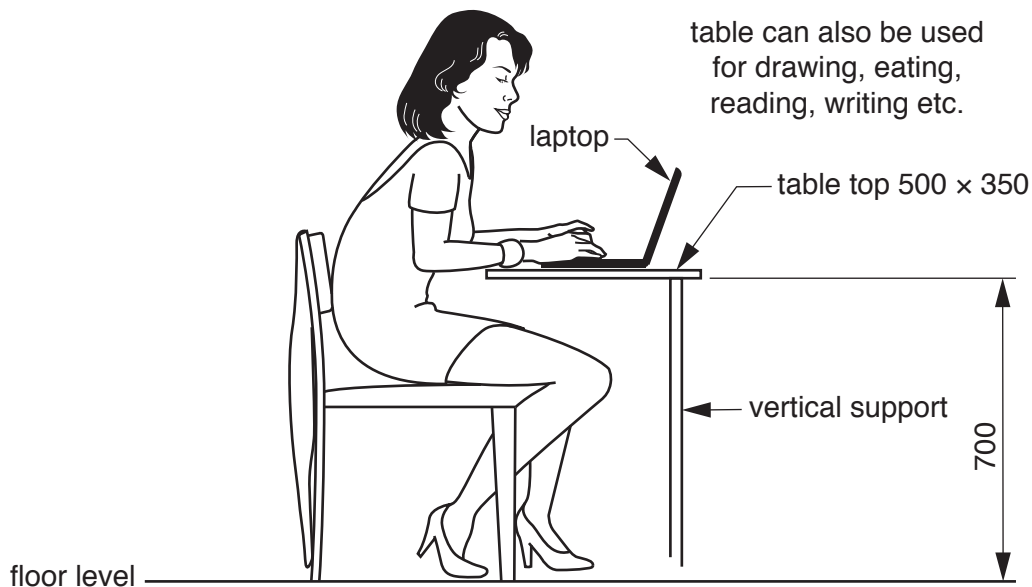

Fig. 7
- 7 Fig. 7 shows an incomplete idea for an adjustable table that can be used by one person while seated in any type of chair.